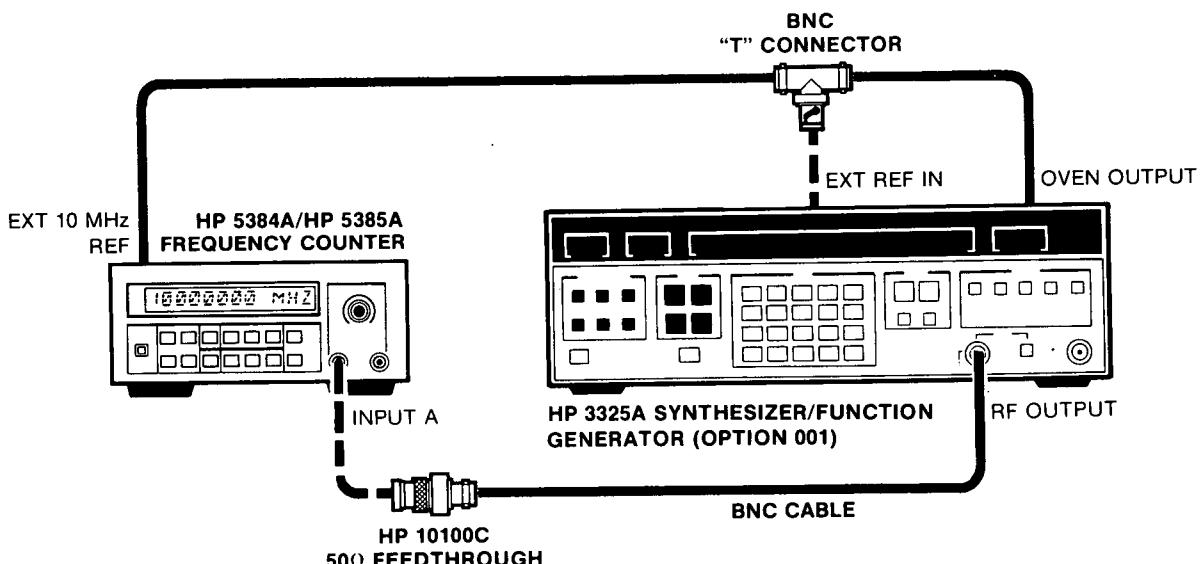

Figure 4-5. Period A Test Setup
- a. Connect the HP 3325A synthesizer/function generator to the HP 5384A/HP 5385A Channel A input as shown in *Figure 4-5*.